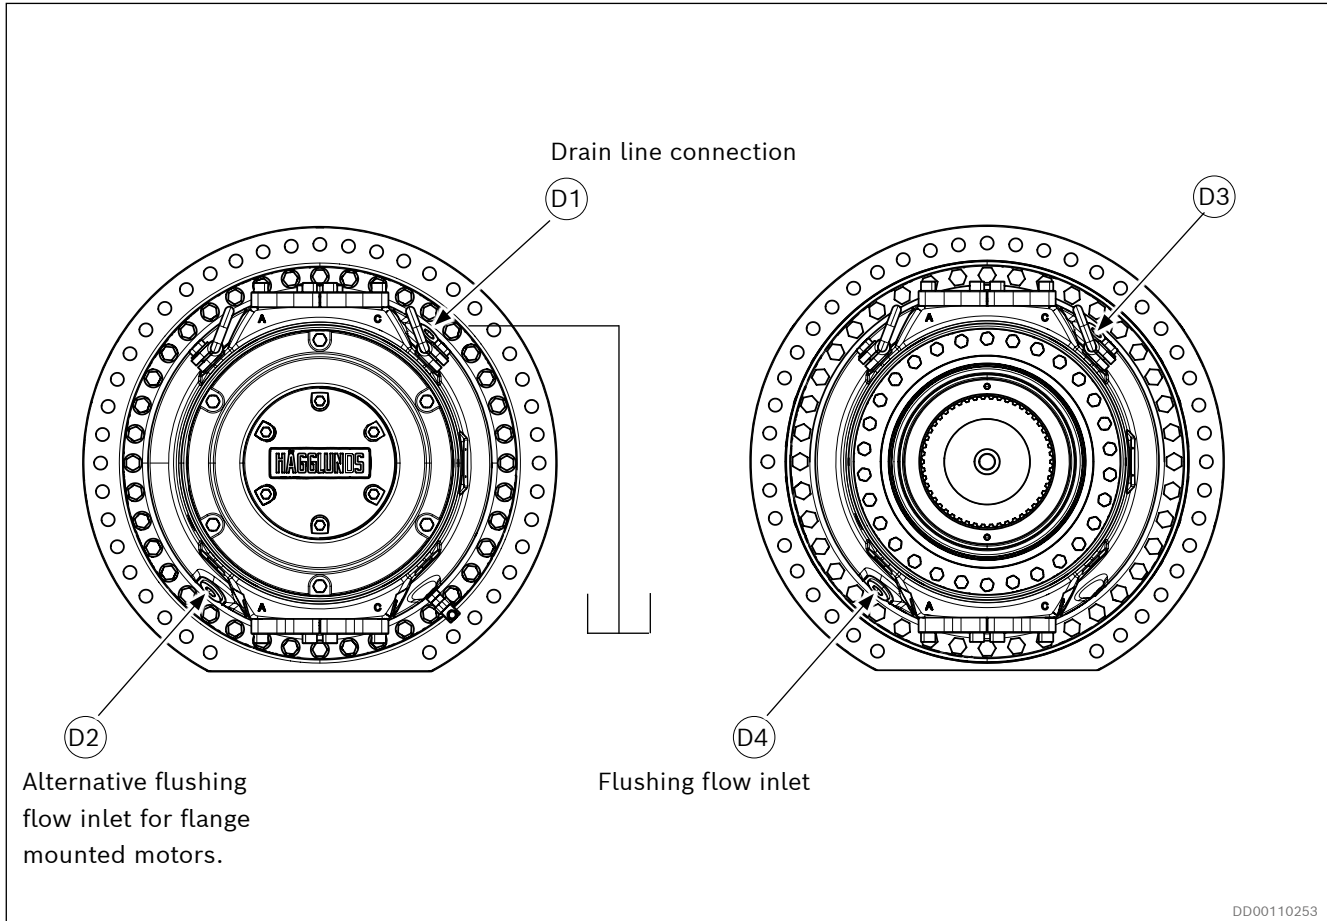
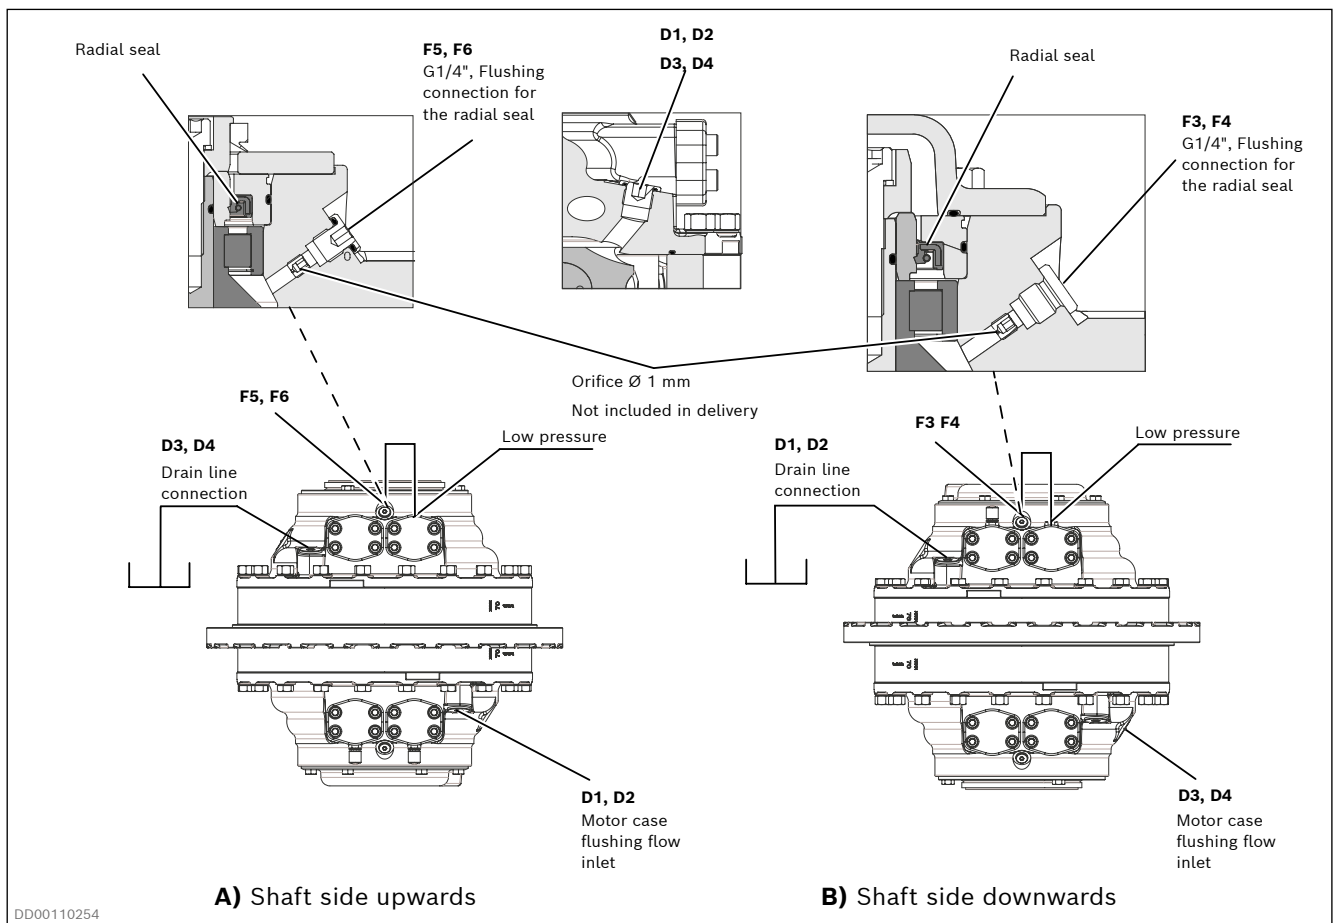
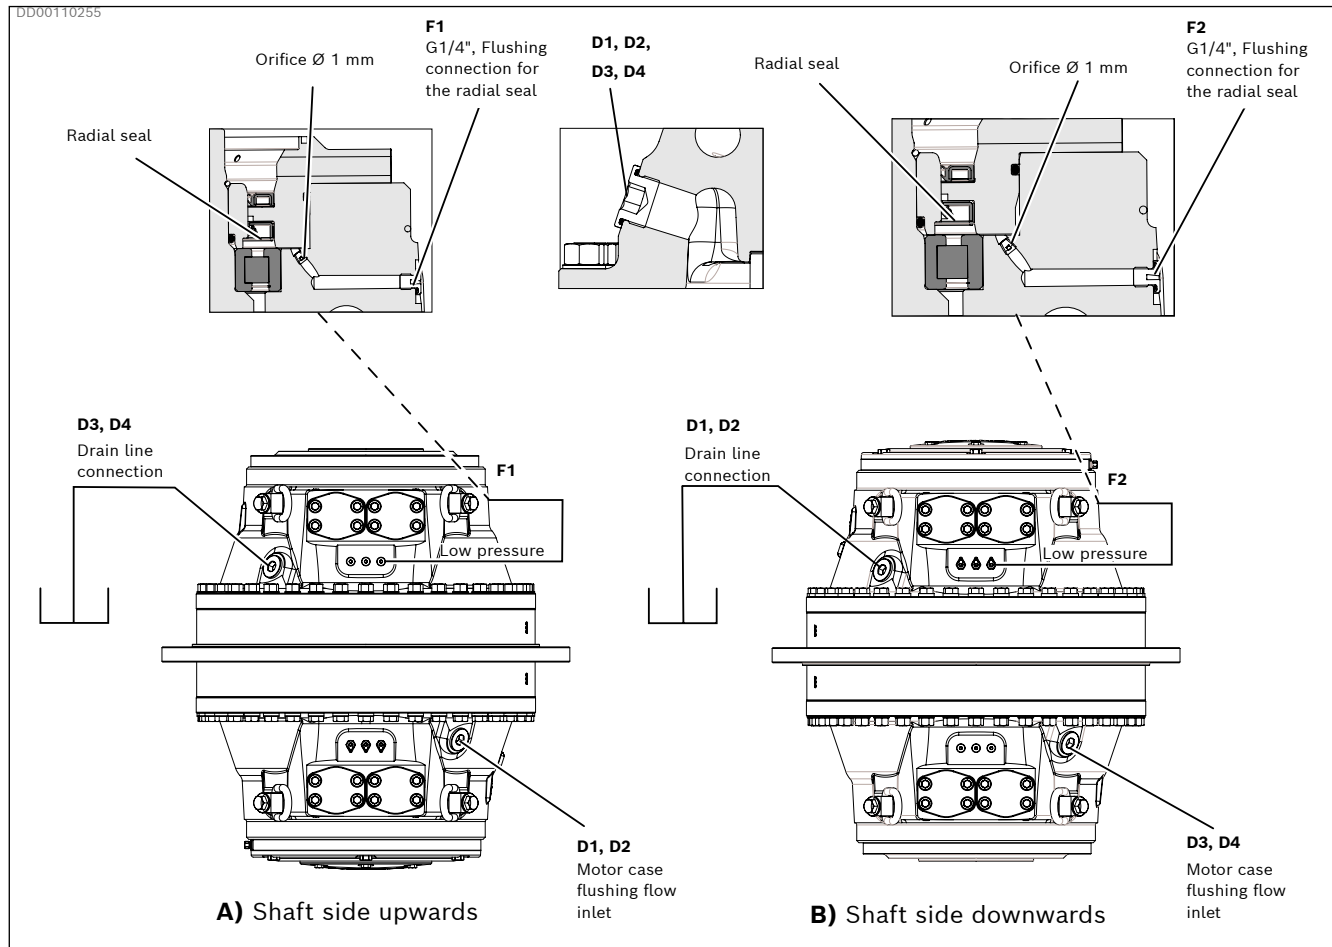

Fig. 43: Horizontal mounting
Fig. 44: Vertical mounting CBp 140
Fig. 45: Vertical mounting CBp 280 to CBp 840
When the motor is installed with the shaft in the horizontal plane, the highest of the drain ports D1 to D4 must always be used see Fig. 43.
A) Motor shaft pointing upwards (See Fig. 44 or Fig. 45, alt. A) Shaft side upwards).
B) Motor shaft pointing downwards (See Fig. 44 or Fig. 45 alt. B) Shaft side downwards).
Connect the input flushing line at the lowest drain port, D1 to D4 at opposite side compared to the drain outlet in order to obtain a cross flushing flow through the motor, see Fig. 43, Fig. 44 and Fig. 45.